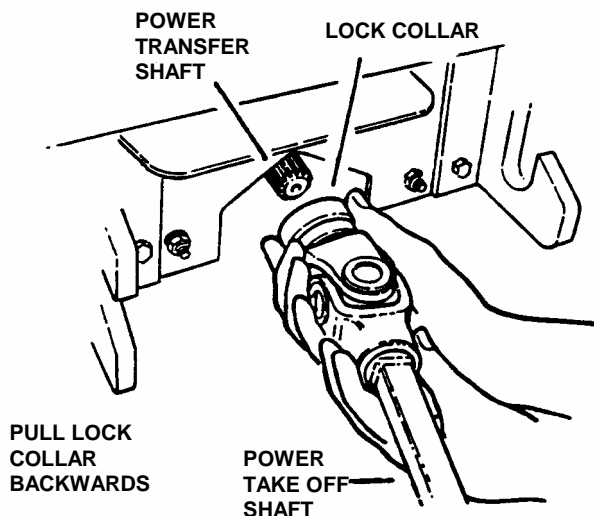

FIGURE 3.11
6. Pull lock collar back and slide power transfer shaft away from power take off (PTO) shaft. See Figure 3.11.
Engage parking brake. Turn engine "OFF" and remove key. The power transfer shaft connects the power unit to the mower deck. The shaft is telescoping for easy removal. Slide locking collar back toward mower deck and shaft will slide off. See Figure 3.11.